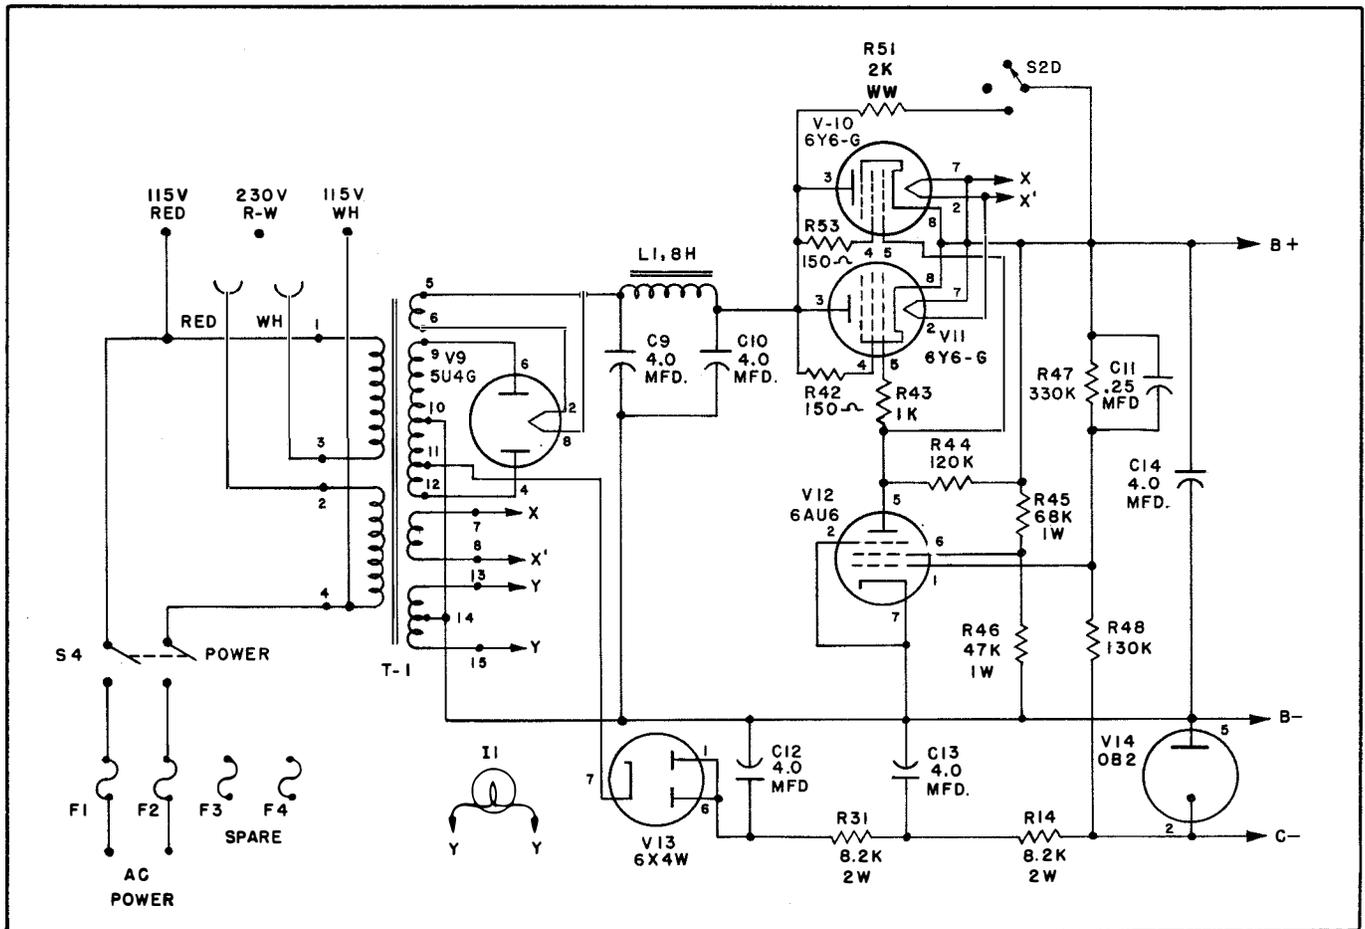

Figure 2-9. Power Supply
e. POWER SUPPLY CIRCUITS - The power supply circuits for the Receiver are illustrated in Figure 2-9. The power supply provides a well regulated B+ voltage at heavy current as well as a regulated C- biasing voltage having small current capabilities. The primary of transformer T1 has two windings which may be connected in parallel for 115 volt operation or in series for 230 volt operation. Terminals are provided on the Receiver terminal board at the rear of the unit for this connection. Rectifier tube V9 provides full wave rectification for the B+ supply.